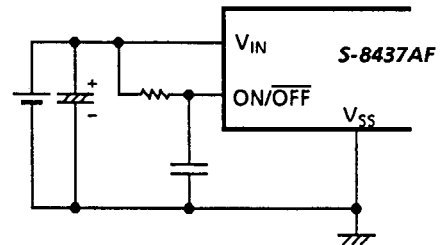

Figure 15
- If the ON/OFF terminal is connected to the V_{IN} terminal, confirm that the fluctuation of the V_{IN} terminal voltage is higher than the V_{SL} level of the ON/OFF terminal. If the voltage fluctuation is lower than the V_{SL} level, the power is turned off and the output voltage is decreased. In this case, insert a filter circuit into the ON/OFF terminal, as shown in Figure 15.